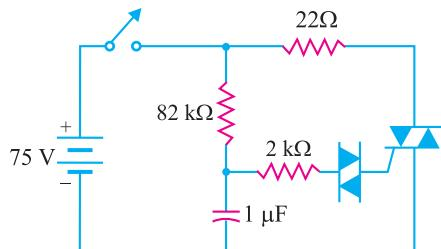

Fig. 21.34
6. In Fig. 21.34, the switch is closed. If the triac has fired, what is the current through the 22Ω ?